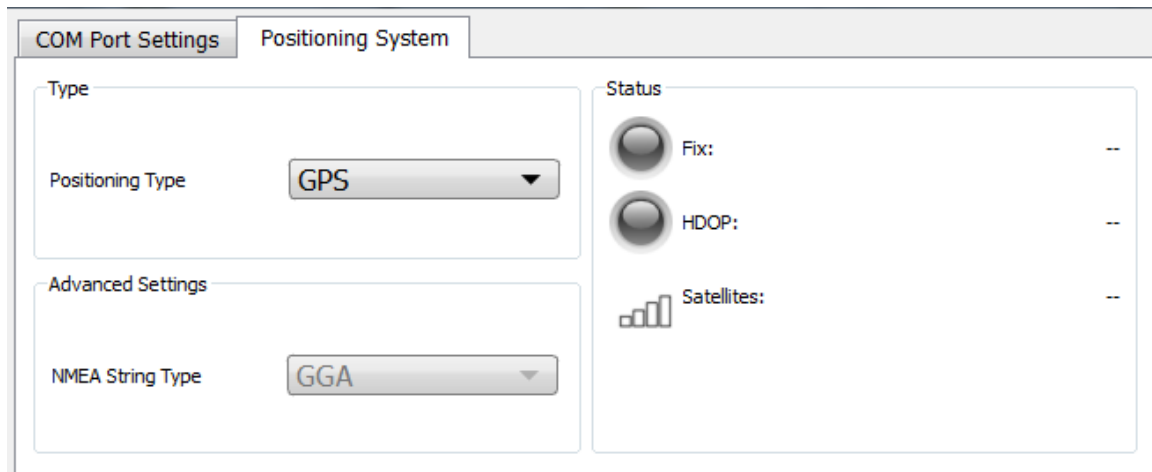

Fig. 2.37 – Positioning System menu
2. Positioning System (Fig. 2.37)